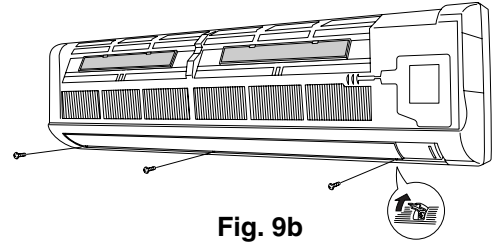
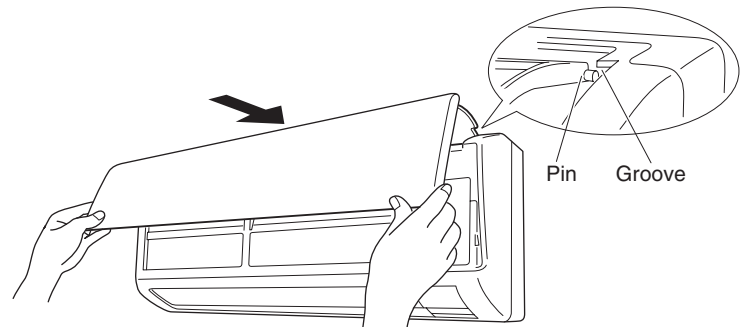

Fig. 9b
Fig. 12a
- (2) Remove the 3 screws. (Fig. 9b)
- (5) Affix the grille with the 3 previously removed screws. (Fig. 9b)
- (6) Install the air intake grille.
- (a) Allow the edge of the air intake grille to slide into the top of the indoor unit, and then insert it all the way inside. (Fig. 12a)